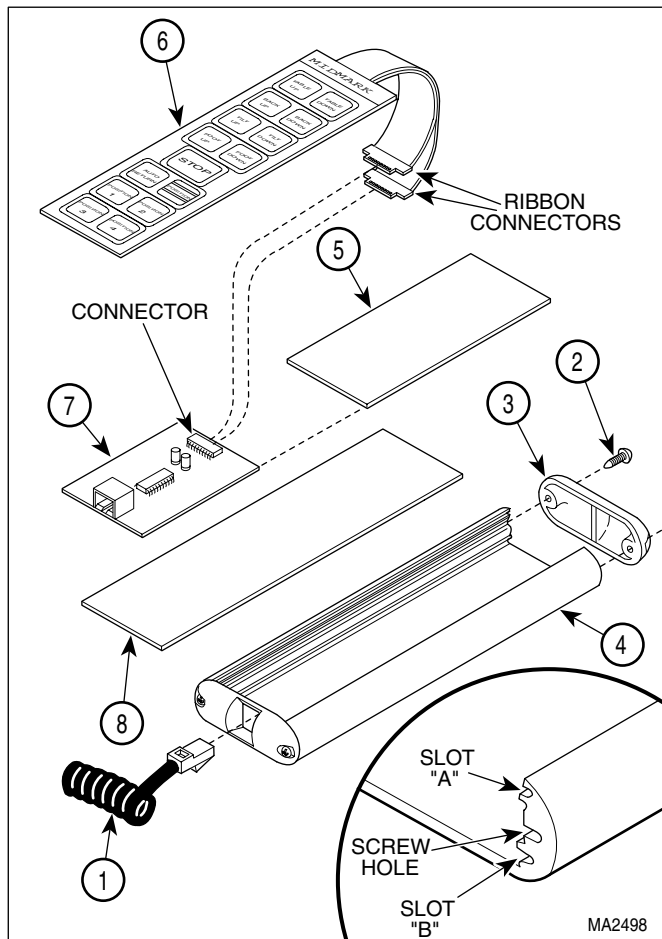

Figure 4-26. Hand Control Panel or Interface Board
- (1) Disconnect coil cord (1, Figure 4-26) from hand control.
(2) Remove two screws (2) and top end cap (3) from hand control tube (4).
(3) Remove locating plate (5) from hand control tube (4).